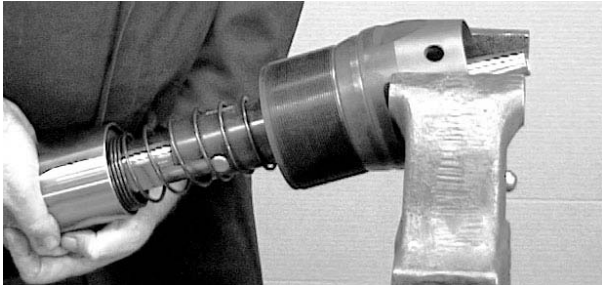

Figure 9-16. Valve Stem Threads
- Continue to slide Valve Stem (10) into Valve Guide (12) until the Valve Stem threads protrude from the other side of the End Cap (15). See Figure 9-16.